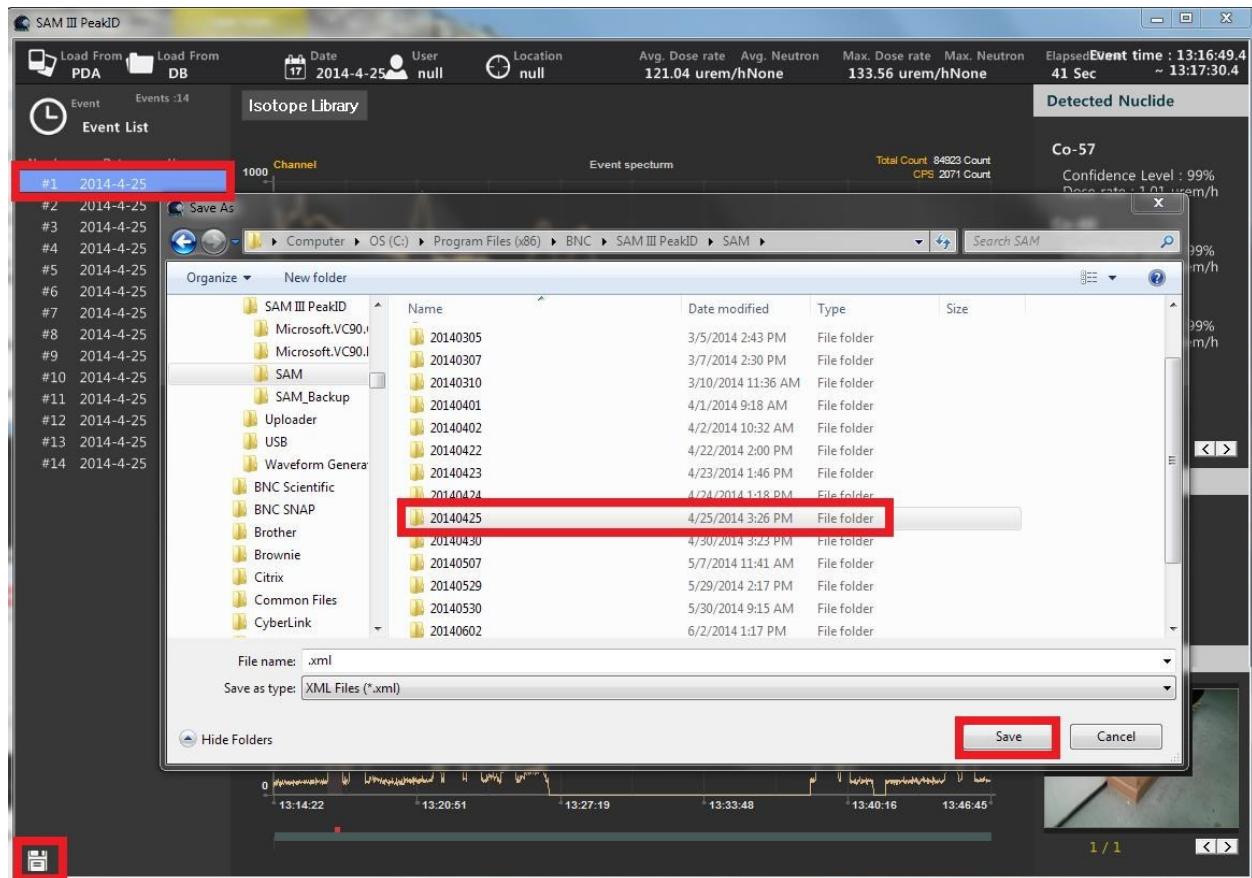

Figure 5.8. Saving event data in XML format
2. Click the **disk icon** in the lower left corner of the screen (Figure 5.8) The destination directory screen will appear.